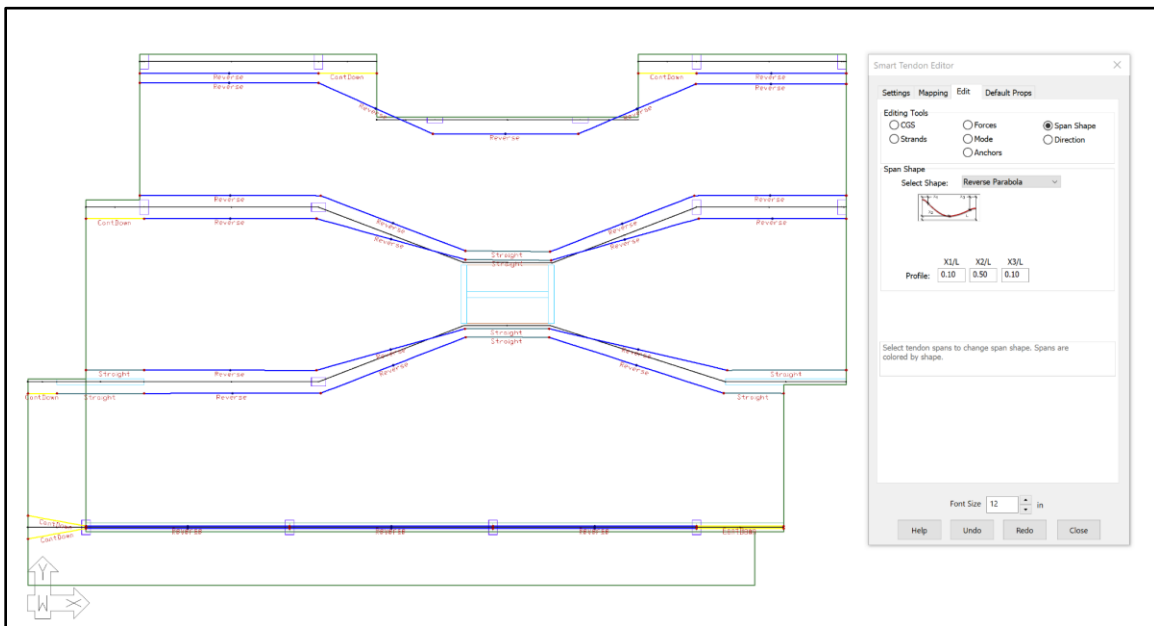

FIGURE 9-60
- Your model should now look like **FIGURE 9-60**.